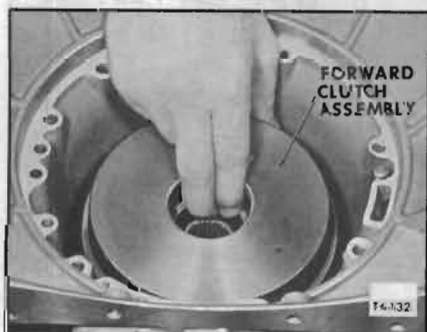

Figure 74-132
3. Remove forward clutch assembly. Make certain low band has been released before attempting to remove forward clutch. See Figure 74-132.